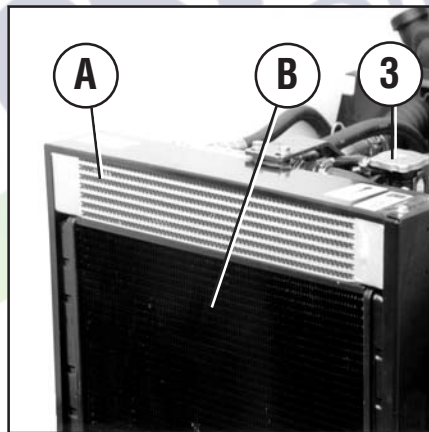

Fig. 12
- Radiant mass A (Fig. 12) for the cooling of the oil in the hydrostatic circuit.
- Radiant mass B (Fig. 12) for the cooling of the water in the engine cooling circuit.